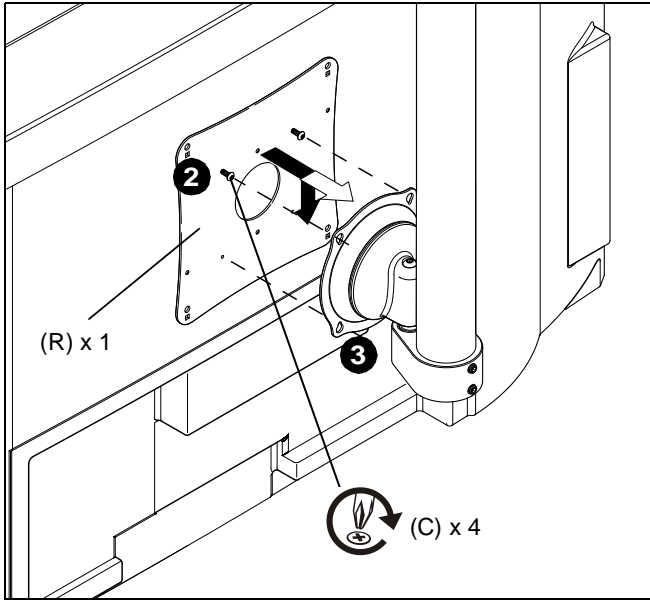

Figure 4
1. Start two Phillips pan head screws into top mounting holes on VESA plate (R). (See Figure 4)
2. Align two screws in VESA plate (R) with upper mounting holes in Centris cup and lower display until screws are seated in lower area of teardrop mounting holes. (See Figure 4)